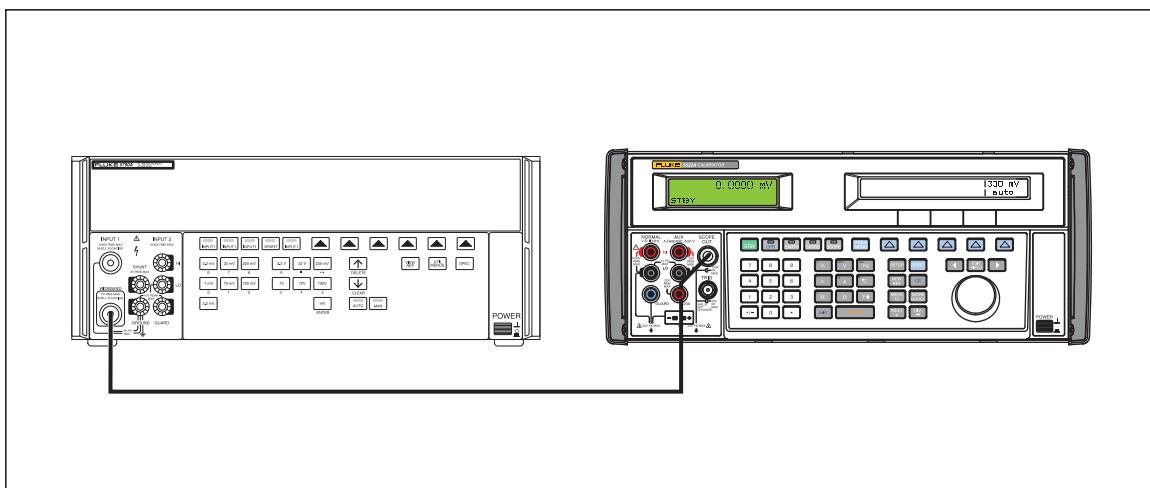

Figure 6-11. Calibrator to 5790A Measurement Standard Connections
3. Connect the Type N connector to the HP 5790A WIDEBAND input. See Figure 6-11.